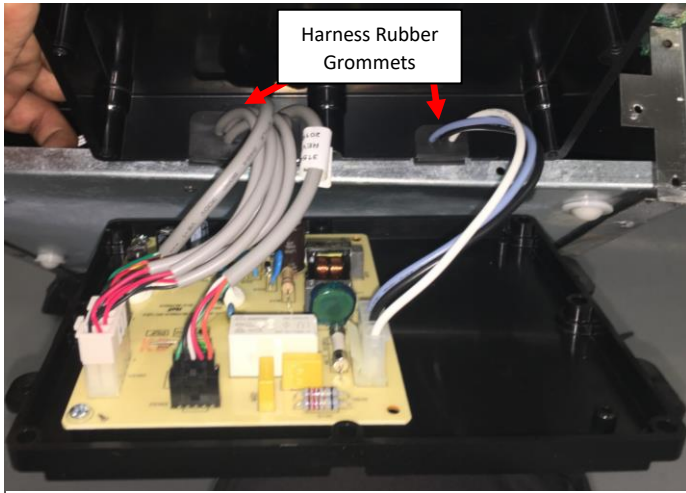

Figure K5: Rubber Grommets in proper slots.
7. Insert the grommets on the harness into the appropriate slots in the bottom piece of the Controller Board Enclosure. **See Figure K5.**